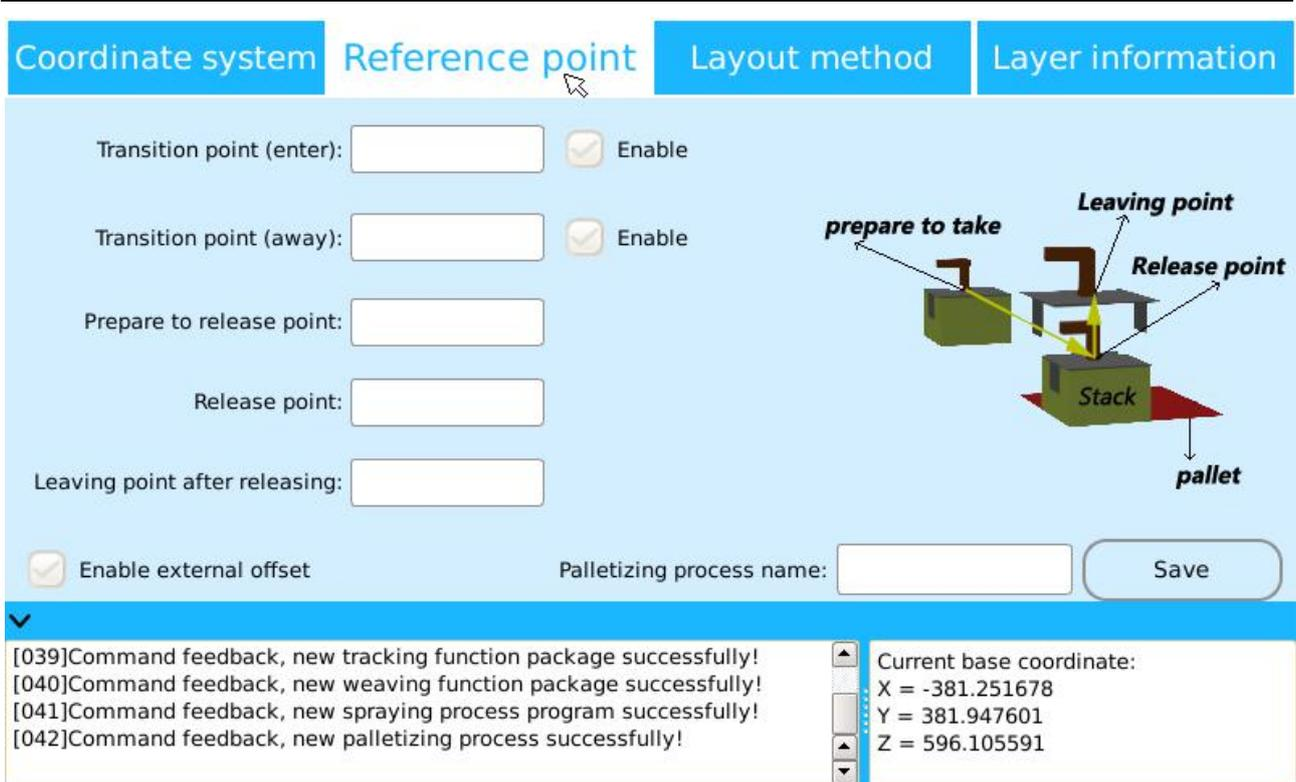

Figure 8.10 Palletization procedure “reference point” setting interface
(2) After entering the creation interface of the “palletization procedure”, the first choice is to select one created “user coordinate system” and enter a “palletizing process name” to create the stack. The “enable external offset” parameter can be set according to the actual situation.
(3) The establishment of “reference point” in the palletization procedure, as shown in Figure 8.10, includes key points such as “transition point”, “ready release point”, “release point” and “post-release point”.